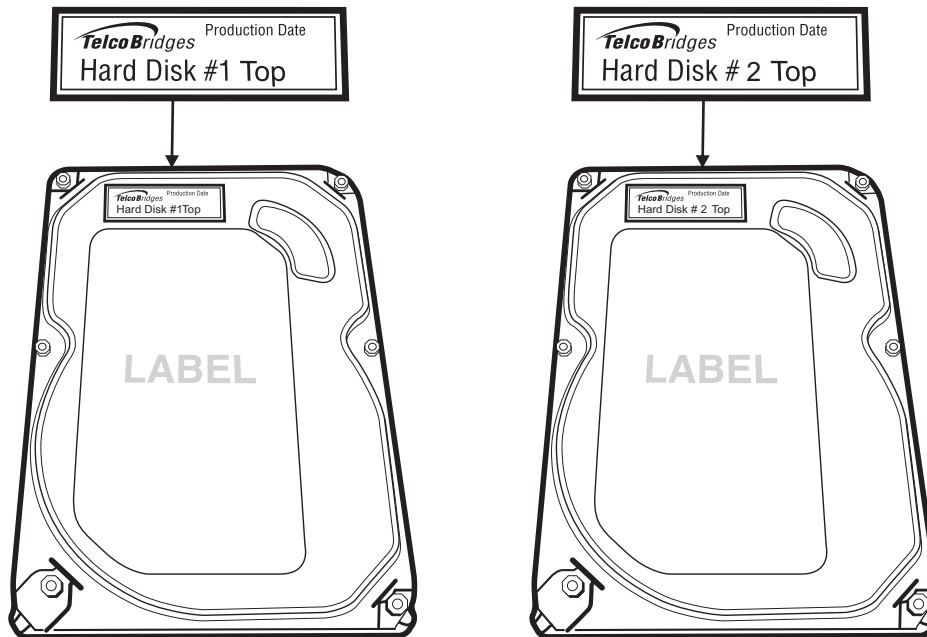
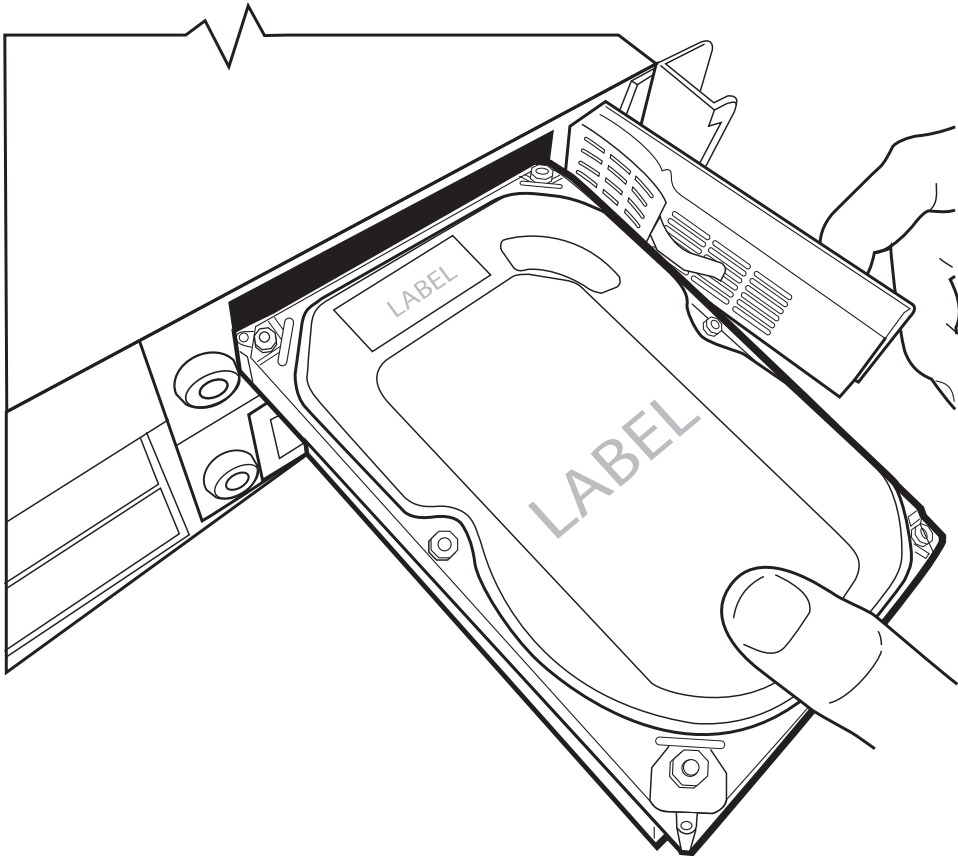

Figure 2.11 Top View of Hard Disks 1 and 2.
Figure 2.16 Inserting the Hard Disk
3. Insert the top disk drive. See figure 2.11 on page 18 and figure 2.16 on page 21.